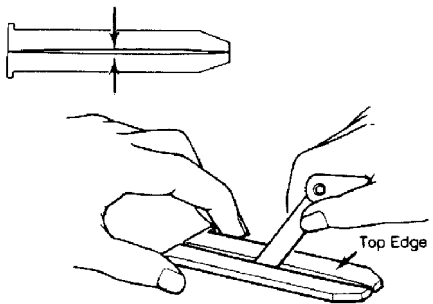

Fig. 15: Checking Apex Seal Warpage
2) Check for warpage by measuring clearance between top surfaces of 2 apex seals with a feeler gauge. Replace all 3 seals if clearance exceeds .0024" (.06 mm). See Fig. 15.